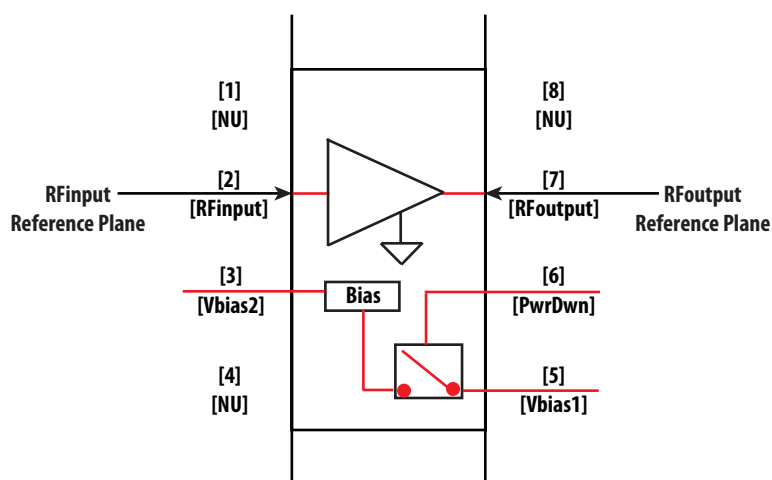

Figure 25. RFinput and RFoutput Reference Plane
2. Scattering and noise parameters are measured on coplanar waveguide made on 0.010 inch thick ROGER 4350. The input reference plane is at the end of the RFinpin and the output reference plane is at the end of the RFoutpin as shown in Figure 25.